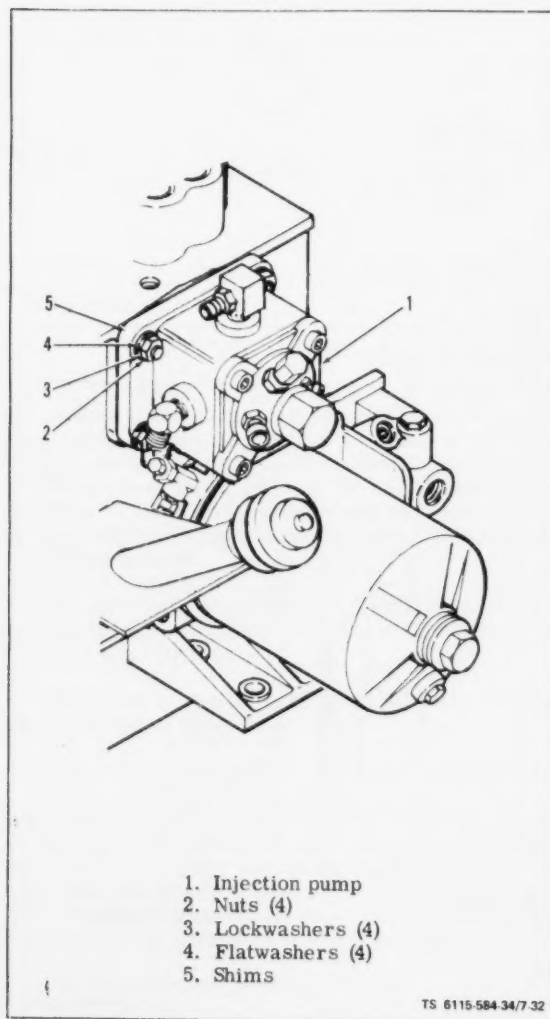

Figure 7-32. Injection Pump
a. Removal (see figure 7-32).
(1) Snap off governor linkage from injection pump (1), and governor control arm and remove linkage.
(3) Remove four hexagon nuts (2, figure 7-32), lockwashers (3), and flatwashers (4) holding pump (1) to crankcase and lift pump off crankcase. Be careful to retain the shims (5) between the crankcase and pump. The correct thickness of shims as stamped on the crankcase is important to proper pump operation; it provides the proper gear lash.